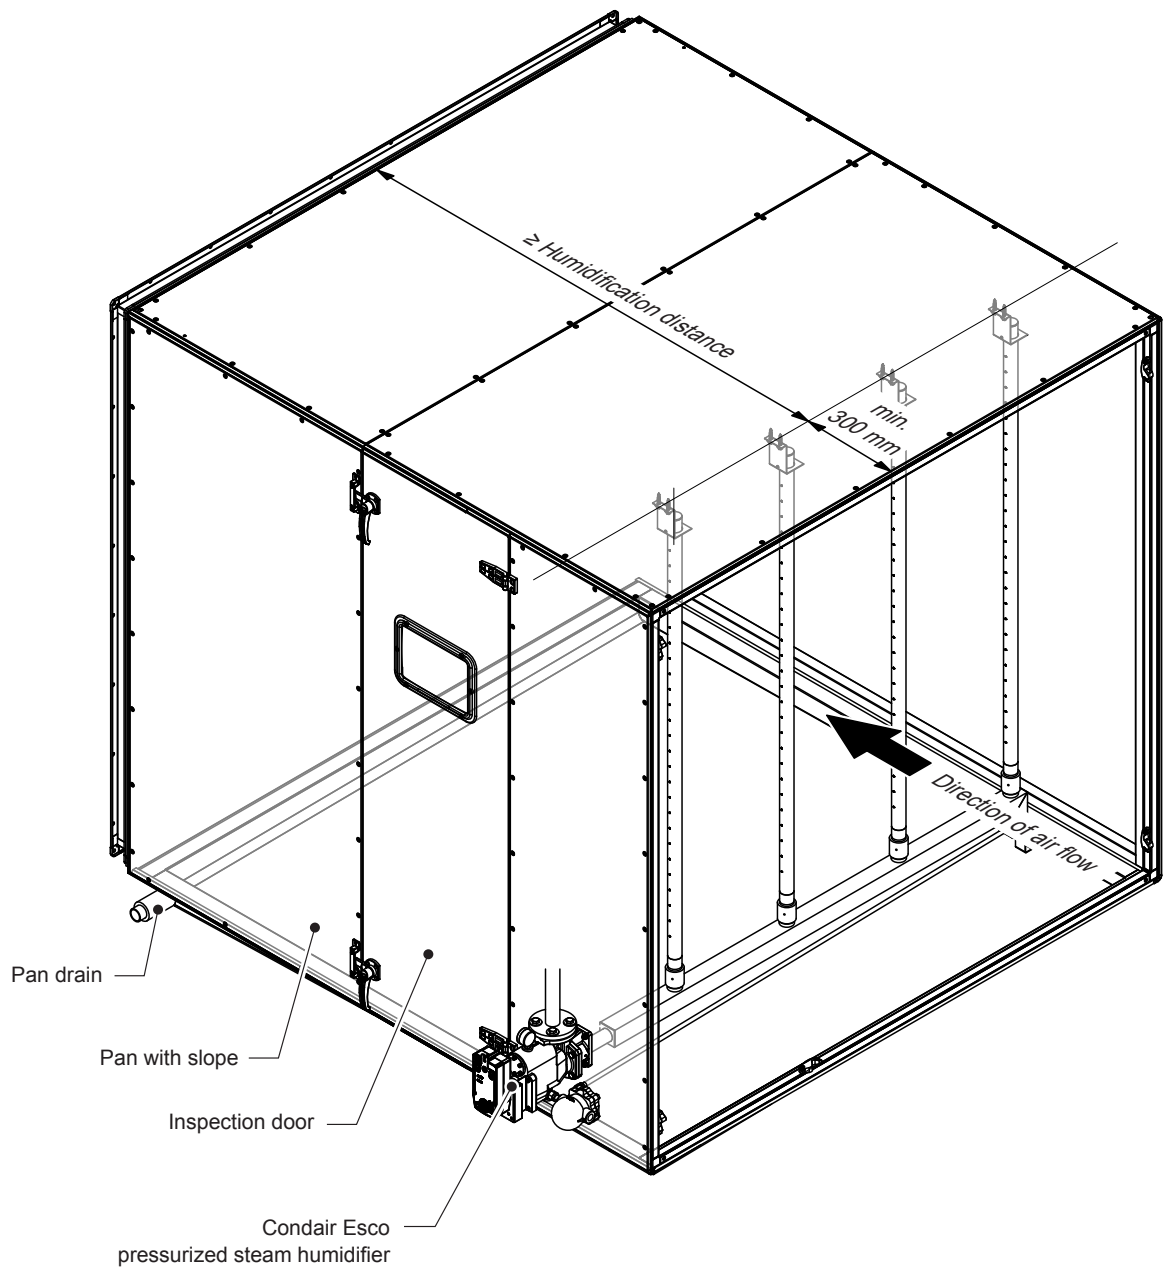

Fig. 28: Duct/DR73 ventilation unit/distance to upstream and downstream obstacles
- Distance to upstream obstacles for DR73 at least 300 mm (see Fig. 28).